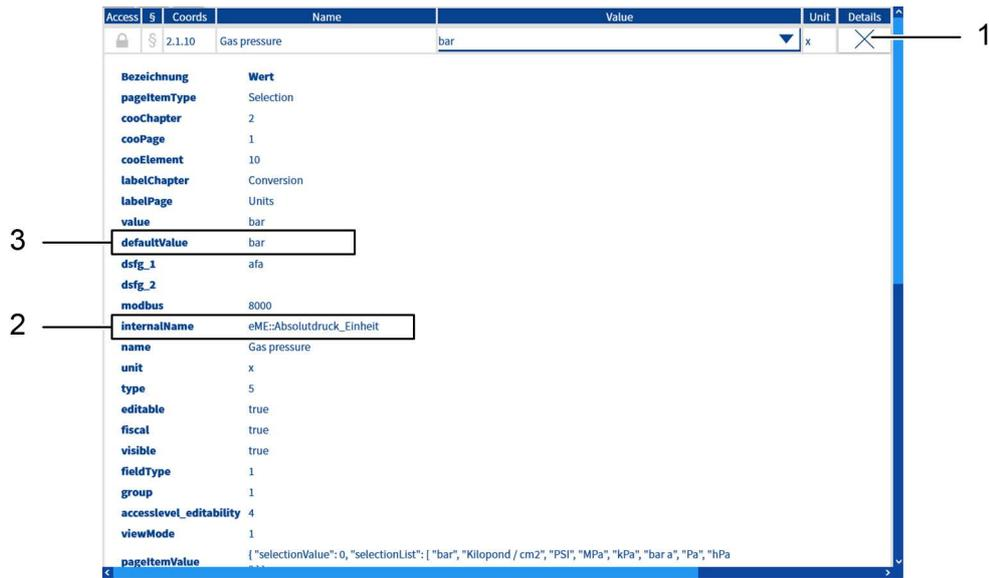

Fig. 45: Detail info window for parameter "2.1.10 Gas pressure"
Pressing this button opens a detailed info window below the line of the selected parameter, which contains information about the parameter or coordinate. Among other things, the default value and the system-internal name for this parameter can also be viewed here (fig. 45, item 2). Pressing the **Close** button (fig. 45, item 1) closes the detailed info window and the info button is displayed again in the corresponding line.